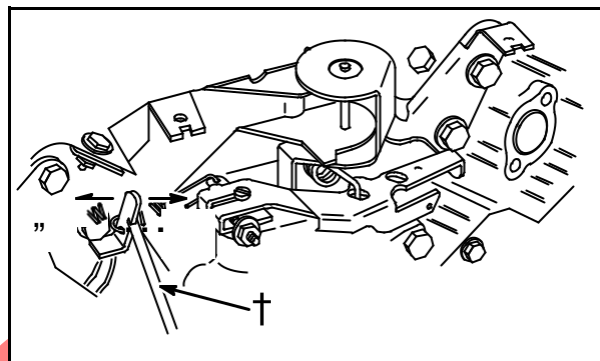

Fig. 21
If necessary, use Tang Bender **#19352** (6), Fig. 21. Bend governed idle tang LEFT to INCREASE (4), right to DECREASE (5) engine speed to obtain RPM shown: